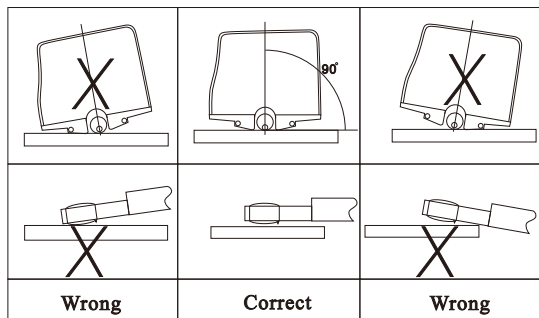
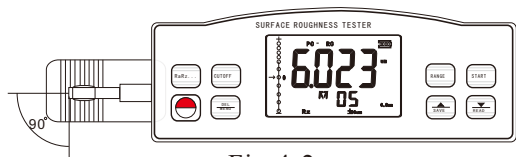

Fig.4-1
Fig.4-2
- I. Refer to Figure 4-1 and Figure 4-2 to place the instrument correctly, stably and reliably on the surface to be measured.
- J. Refer to Figure 4-2, the sliding trail of the sensor must be vertical to the direction of process line of the measured surface.